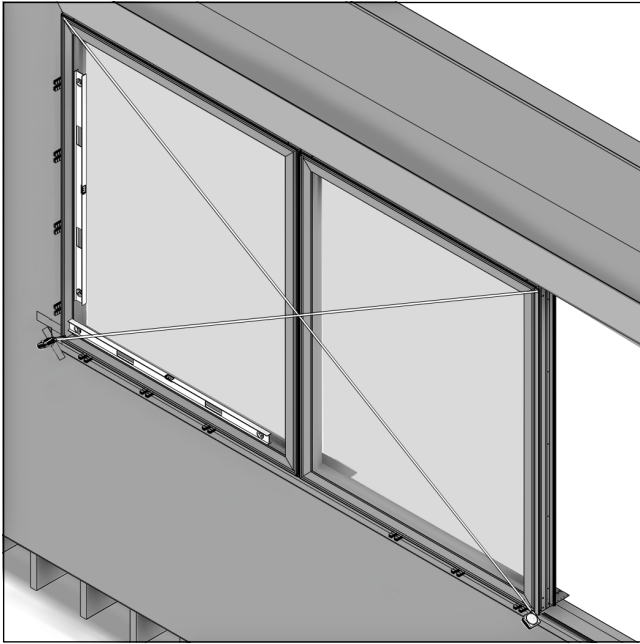

Figure 77 Square and true
14. Ensure window assembly is level, plumb, square and true. For additional segments, repeat the last step until final assembly is installed. Fasten interlock with TEK2 #8 x 3/4" screws. See Figure 77.